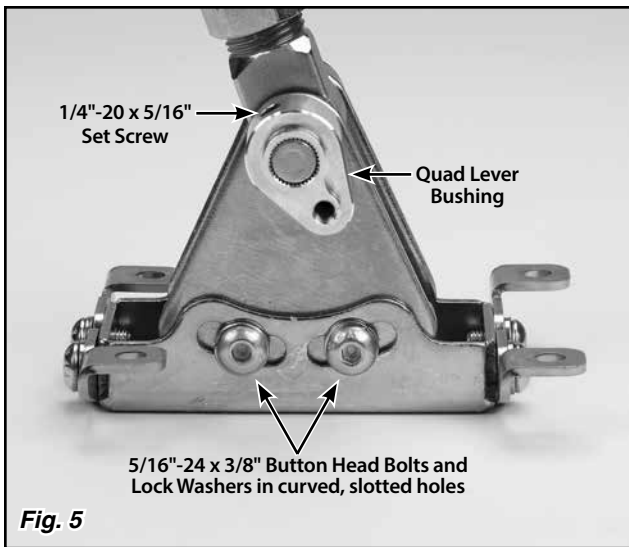

Fig. 5
Step 5: Make sure the two 5/16"-24 x 3/8" button head bolts and lock washers that are in the curved, slotted holes in the driver side of the floor mount mounting bracket are tight using a 3/16" Allen wrench. Place the Shifter in the desired location on the vehicle's floor. Make sure the shifter lever will not interfere with the dash when in Park, or with the seat when in low gear. The shifter assembly may be tilted forward or backward if needed by loosening the two 5/16"-24 x 3/8" button head bolts and lock washers that are in the curved, slotted holes in the driver side of the floor mount mounting bracket. Retighten the button head bolts and lock washers in the curved, slotted holes once you have the shifter assembly at the angle you want. Fig. 5